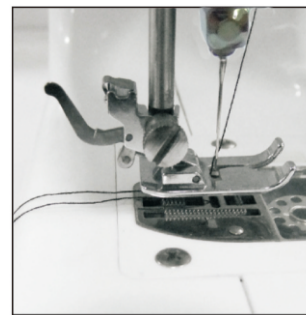

Fig.10
4. Replace the bobbin cover and separate the two threads and pull them to the back of the machine under the presser foot, leaving about 10cm hanging there (Fig. 10).